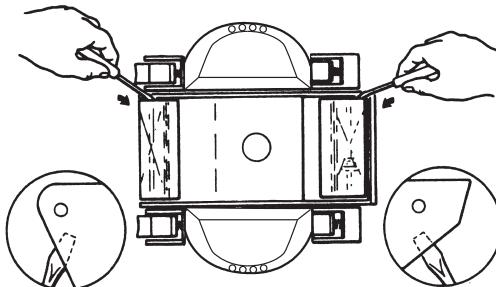

Figure 11
- a) Remove the front and rear flaps from your Cleaner by inserting a small screwdriver between the flap and the lower body near the pivot point of the flaps (*see Figure 11*).